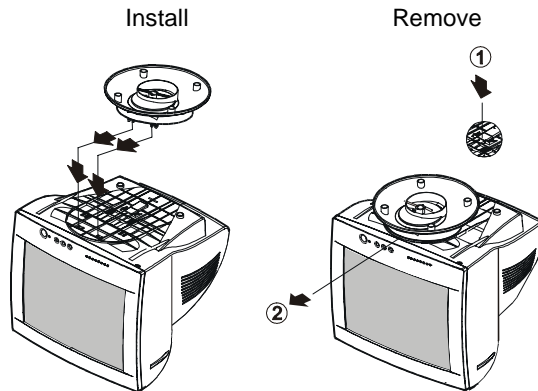

Figure 1 Installing and removing the Swivel Base
- Carefully turn the monitor on its side or upside down. (see figure 1)